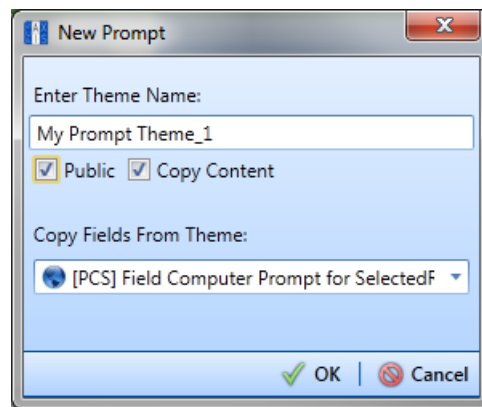

Figure 13-30. New Prompt
- 4 Click the **+** **Add** button to open the *New Prompt* dialog box (Figure 13-30).
- 4 Click the  **Add** button to open the *New Prompt* dialog box (Figure 13-30, page 591).